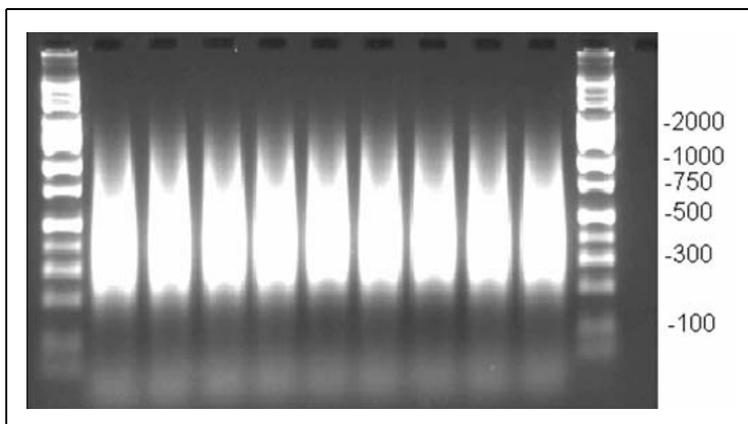

Figure 4.5 Example of PCR products run on 2% TBE agarose gel at 120V for 1 hour. Average product distribution is between ~200 to 1100 bp.
11. Verify that the PCR product distribution is between ~200 bp to 1100 bp (see Figure 4.5).